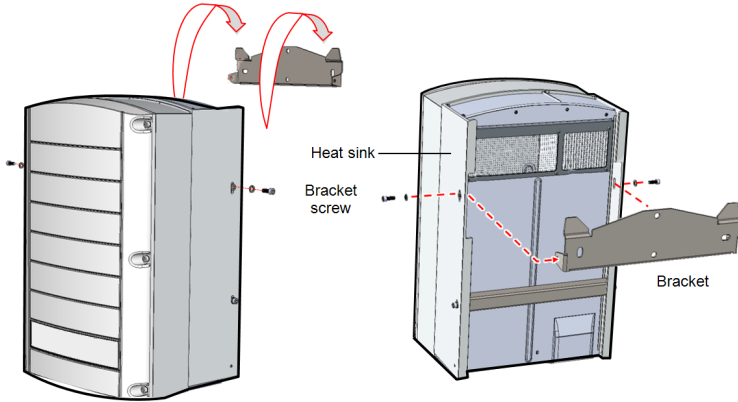

Figure 16: Hanging the Synergy Unit
- For the right or left Synergy Units, insert only one screw through the outer (exposed) side of the unit and into the bracket. Tighten the screws to a torque of 2.9 lb.*ft (see *Figure 16*).